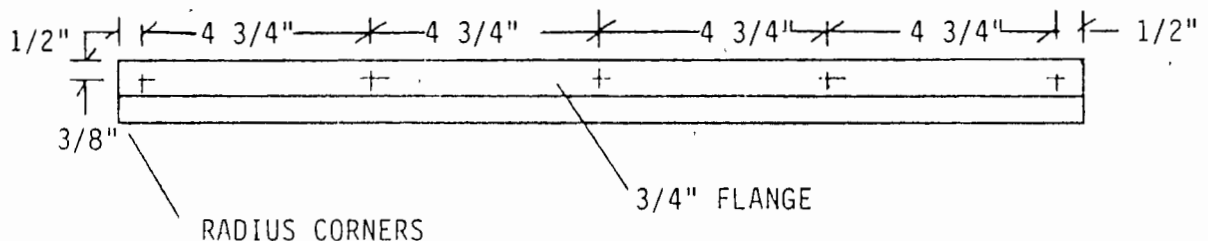

FIGURE 021-04
4. Lay out and pre-drill #30 holes in the "Z" strips as shown in Figure 021-04.